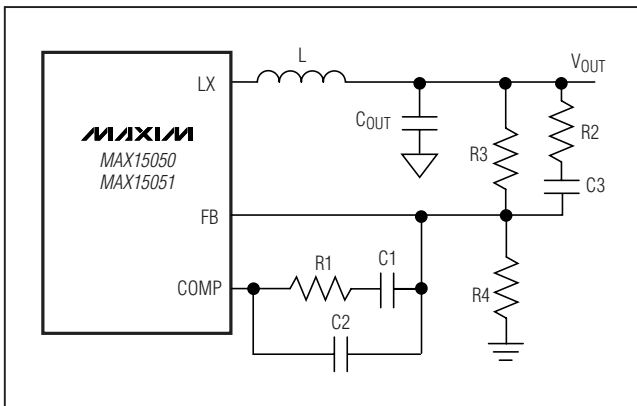
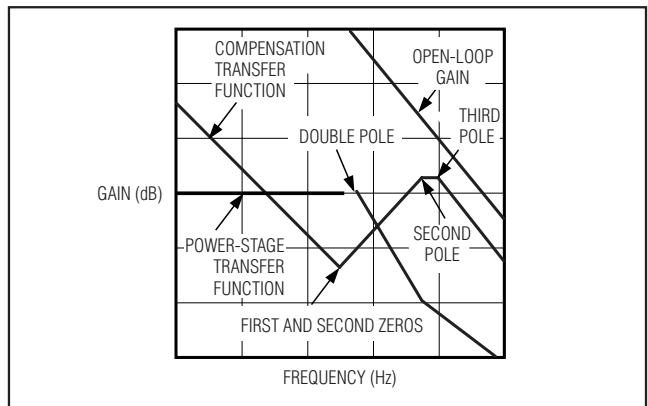

Figure 4. Type III Compensation Network
Figure 5. Type III Compensation Illustration
The MAX15050/MAX15051 high switching frequency allows the use of ceramic output capacitors. Since the ESR of ceramic capacitors is typically very low, the frequency of the associated transfer function zero is higher than the unity-gain crossover frequency, f_C , and the zero cannot be used to compensate for the double pole created by the output inductor and capacitor. The double pole produces a gain drop of 40dB/decade and a phase shift of 180° . The compensation network must compensate for this gain drop and phase shift to achieve a stable high-bandwidth closed-loop system. Therefore, use type III compensation as shown in Figure 4 and Figure 5. Type III compensation possesses three poles and two zeros with the first pole, f_{P1_EA} , located at zero frequency (DC). Locations of other poles and zeros of the type III compensation are given by: